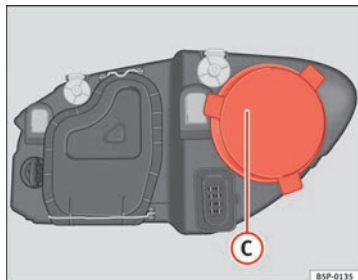

Fig. 186 Main beam headlights
- Remove the cover ⇒ fig. 186 ③ by pulling on this.